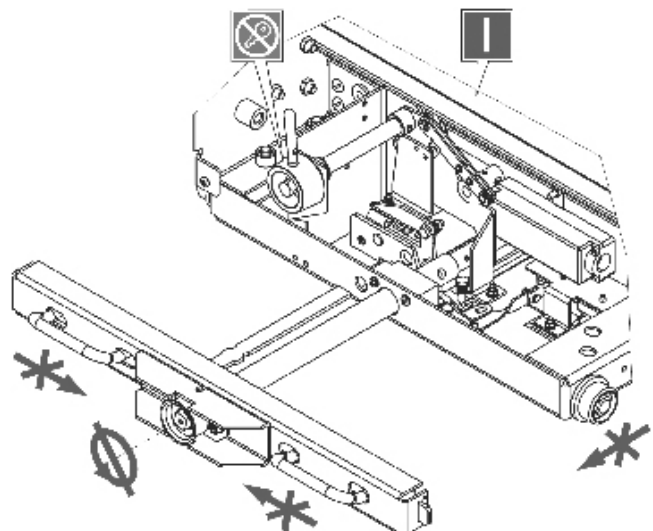

Figure 22
- When the interlocking knob is in unlocked position (Fig. 22) the interlocking system is in “Unlocked” position. In this position the ISM can be operated (opened and closed) and the draw-out unit can not be moved.
**Position C (Fig. 22)**